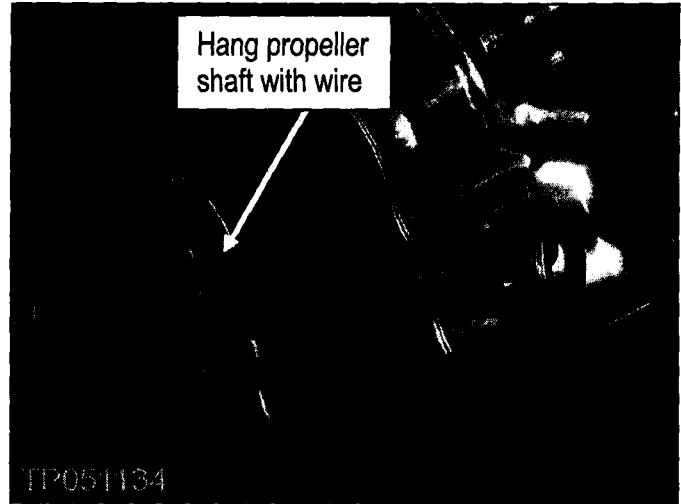

Figure 20
20. Use a piece of wire to hang the propeller shaft from one of the heat shield brackets (see Figure 20). Make sure the shaft is positioned to one side of the differential pinion flange.